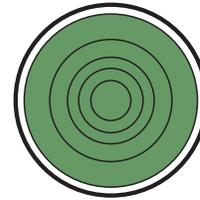

Figure 115. Main Circuit Breaker ON Lamp (ON/GREEN)
- Verify that the **Main Circuit Breaker ON** lamp (Figure 115) is illuminated (**GREEN**). This indicates that **the circuit breaker contacts are closed** and power has been sent to the load.